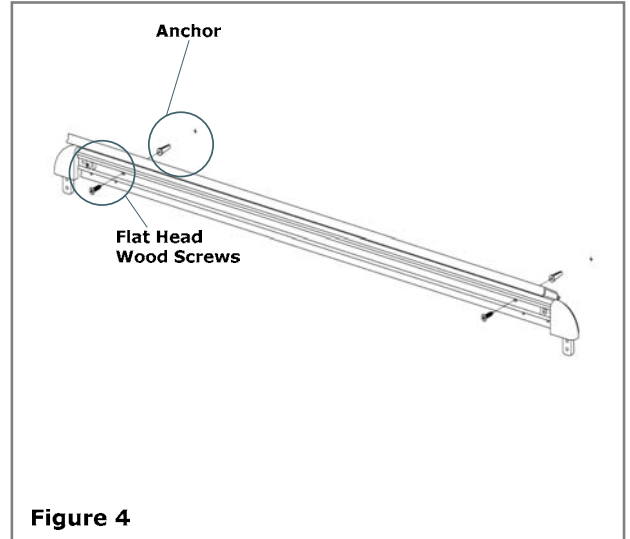

Figure 4
1. With the frame already open, hold one side of the unit on the wall in the desired location. Using a level to ensure proper alignment, mark the wall through the holes pre-drilled in the body. **See Figure 4.**
2. Using a 3/16" drill bit, drill holes and install the plastic anchors. **See Figure 4.**
3. Skip ahead to step 4 if pre-assembling your PrintFrame. If assembling on the wall, use the flat head wood screws to screw through the body and into the anchors. **See Figure 4.**
5. Repeat step 4 for the remaining sides, using a level or carpenter's square to maintain squareness. Mark holes and install the remaining anchors as shown in figure 4.
1. Mark and install anchors as described in steps 1 and 2 above. **See Figure 4.**
4. Install corner brackets in the ends of the remaining side and slide it into the open ends of the sides already installed. Use a level or carpenter's square to maintain squareness, loosening and retightening the corner brackets as needed. Mark the holes and install the remaining anchors as shown in figure 4.